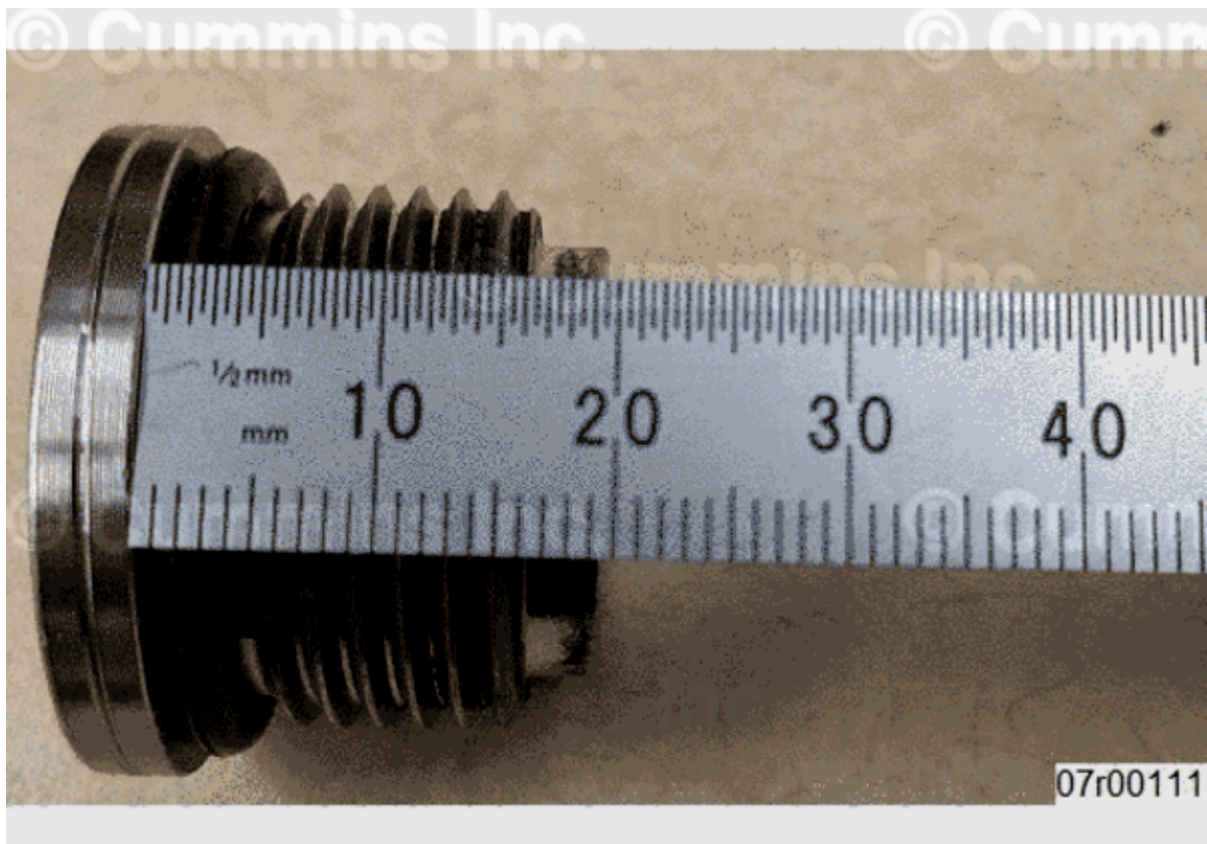

Figure 2, Measurement of Lubricating Oil Filter Head Threaded Plug.
- Measure length of threaded plug from underside of threaded plug head to end of threaded plug. See Figure 2 below.